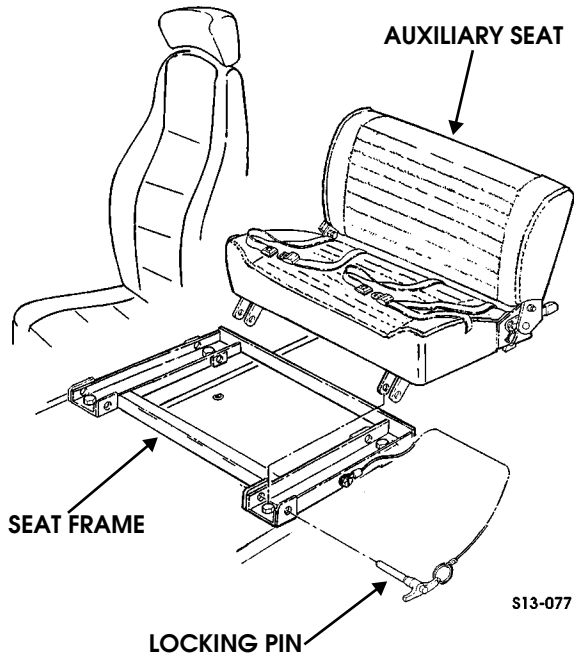

Figure 13-80: Auxiliary Seat
1. Release and remove four locking pins from auxiliary seat frame and auxiliary seat (Figure 13-80).